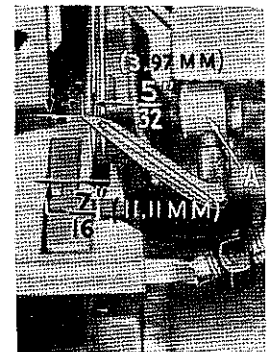

Fig. 8
Next, turn the handwheel until looper is at the left end of its travel. Check the dimensions of the upper looper point with respect to needle and throat plate (Fig. 8) and the following dimensions; distance from centerline of left needle to point of looper should be approximately  $5/32$  inch (3.97 mm) and distance from throat plate to point of looper should be approximately  $7/16$  inch (11.11 mm) on Style 39500 RB machine (Fig. 8).
**NOTE:** For Style 39500 RC-045 the dimensional setting of the upper looper point with respect to the center of the left is also  $5/32$  inch (3.97 mm), but the setting of the upper looper point with respect to the throat plate is approximately  $15/32$  inch (11.91 mm). If resetting is necessary, do so by moving the upper looper holder (A, Fig. 8). Figure 8 represents the dimensional setting for Style 39500 RB.
Check setting to avoid interference between upper looper and needles on needle down stroke. If needles rub the back of upper looper, pull looper out of its holder slightly and rotate a short distance counterclockwise, looking from left end of machine. Reset to maintain dimensions suggested above and in Figs. 8 and 9.